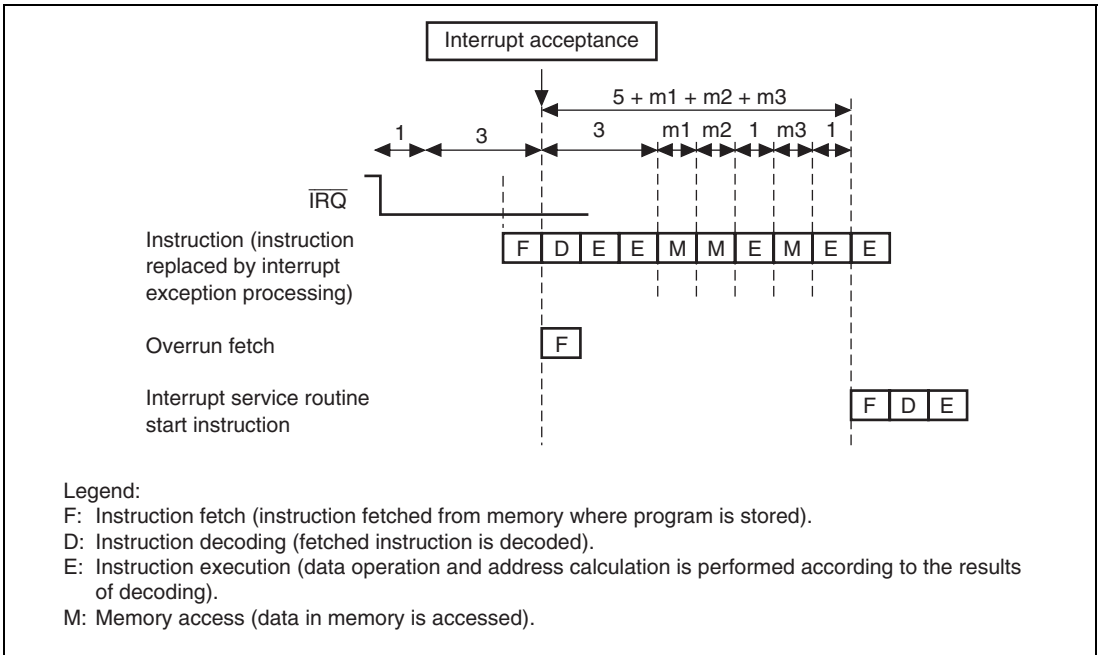

Figure 6.5 Example of the Pipeline Operation when an IRQ Interrupt is Accepted
3. The interrupt controller compares the priority level of the selected interrupt request with the interrupt mask bits (I3 to I0) in the CPU's status register (SR). If the request priority level is equal to or less than the level set in I3 to I0, the request is ignored. If the request priority level is higher than the level in bits I3 to I0, the interrupt controller accepts the interrupt and sends an interrupt request signal to the CPU.
5. The CPU detects the interrupt request sent from the interrupt controller when CPU decodes the instruction to be executed. Instead of executing the decoded instruction, the CPU starts interrupt exception processing (figure 6.5).
7. The priority level of the accepted interrupt is copied to the interrupt mask level bits (I3 to I0) in the status register (SR).
8. When the accepted interrupt is sensed by level or is from an on-chip peripheral module, a high level is output from the $\overline{\text{IRQOUT}}$ pin. When the accepted interrupt is sensed by edge, a high level is output from the $\overline{\text{IRQOUT}}$ pin at the moment when the CPU starts interrupt exception processing instead of instruction execution as noted in (5) above. However, if the interrupt controller accepts an interrupt with a higher priority than the interrupt just to be accepting, the $\overline{\text{IRQOUT}}$ pin holds low level.
Table 6.3 lists the interrupt response time, which is the time from the occurrence of an interrupt request until the interrupt exception processing starts and fetching of the first instruction of the interrupt service routine begins. Figure 6.5 shows an example of the pipeline operation when an IRQ interrupt is accepted.